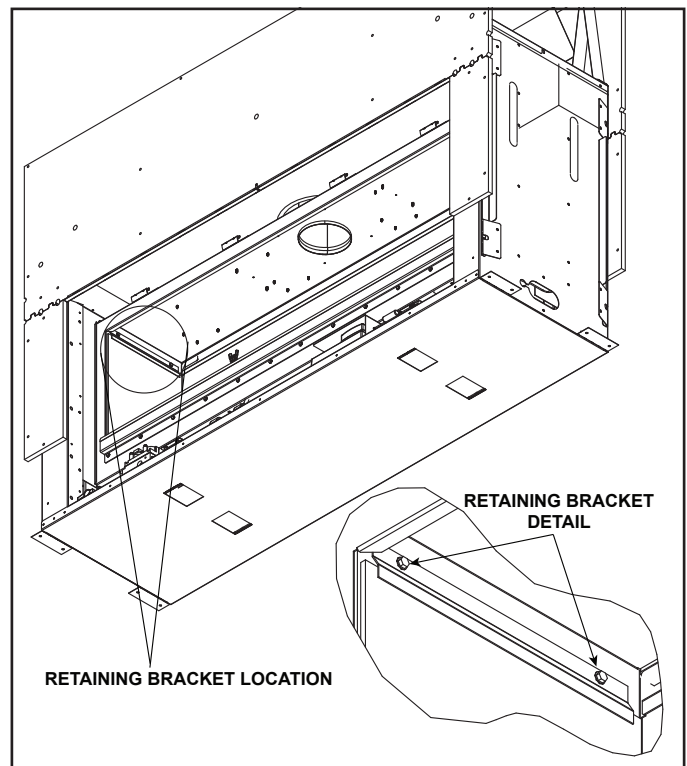

Figure 11.6. Retaining Bracket Installation - See-Through Models
- Bend the tab on the glass bracket toward the side glass panel until a 1/16 inch - 1/8 inch gap is created between the tab and the side glass panel. See Figure 11.6.
- Place retaining bracket over glass panel so holes in the bracket are against the firebox side. Use two self-drilling screws to secure the bracket to the firebox side. See Figure 11.6.